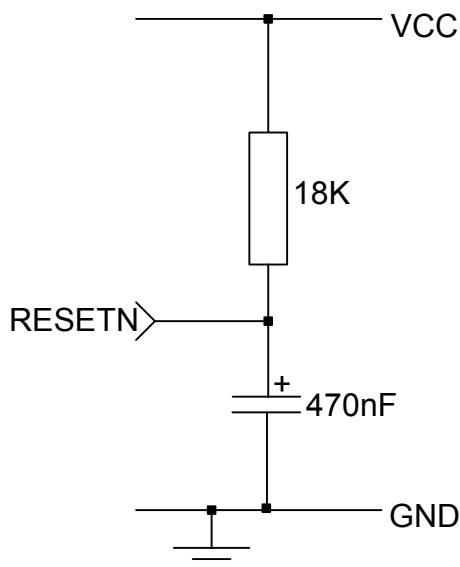

Figure 1: Recommended Reset Circuit
- To reset the module, the reset circuit shown below in Figure 1 should be applied. If necessary, a switch can be applied between RESETN and GROUND.